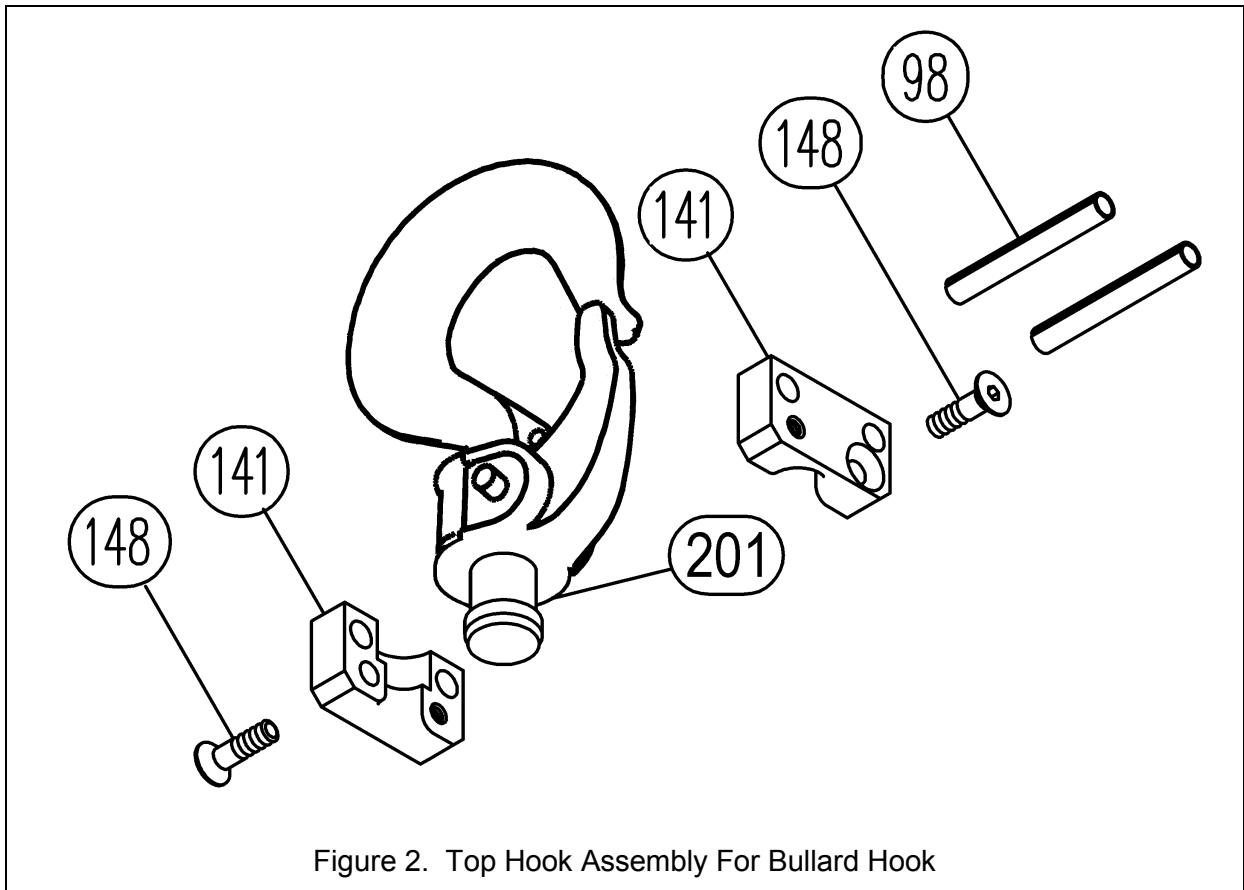

Figure 2. Top Hook Assembly For Bullard Hook
**For Top Yoke (Figures 2 and 4)**